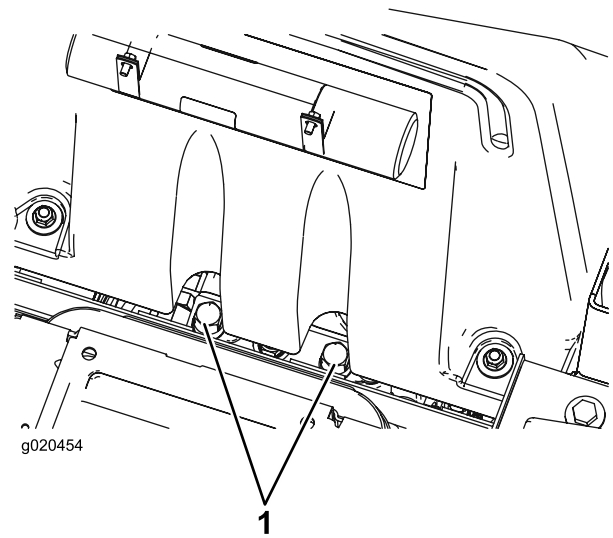

Figure 56
1. Raise the seat and locate the bypass valves, which are located below the front of the fuel tank (Figure 56).